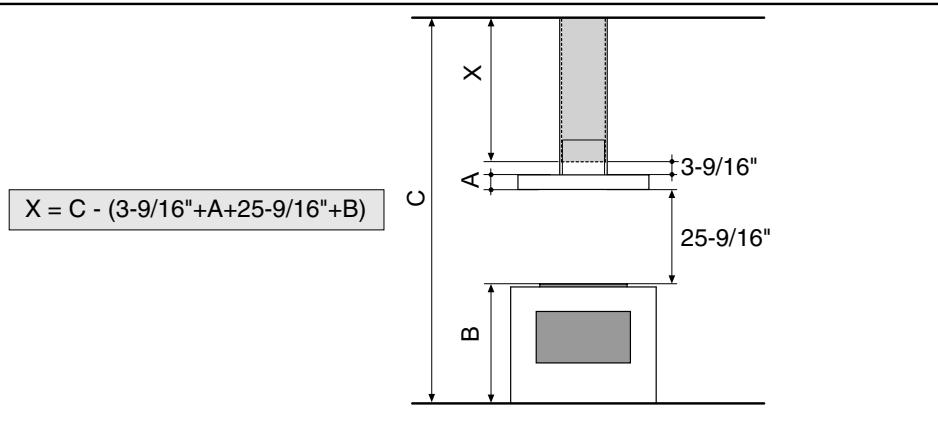
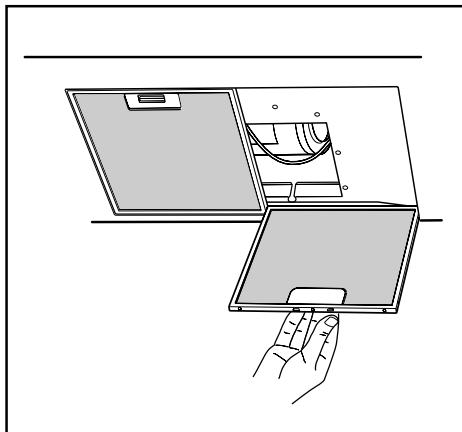

Fig.14
Fig.15
Adjust the height by referring to the amounts indicated in (fig.14) and block it using the 8 screws **G** that are supplied (fig.6).
-If the cooker hood is supplied with a lower chimney piece that must be fixed to the hood body with screws, remove the anti-grease filters from the hood by acting on the relevant handles (Fig.15). Then screw the lower chimney piece pipe to the inside of the hood, using screws **P** (Fig.14). Re-locate the filters in their seat.